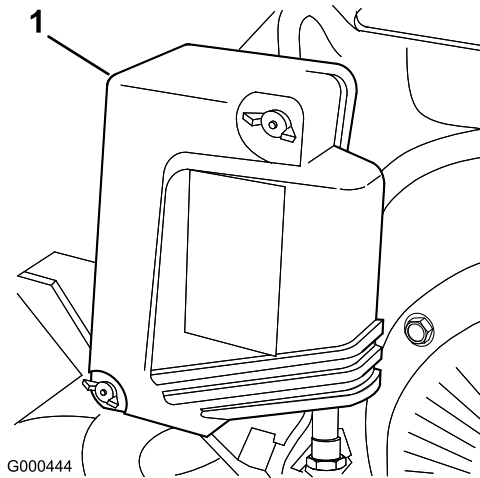

Figure 18
2. Remove the wing nuts securing the air cleaner cover and remove the cover (Figure 18).